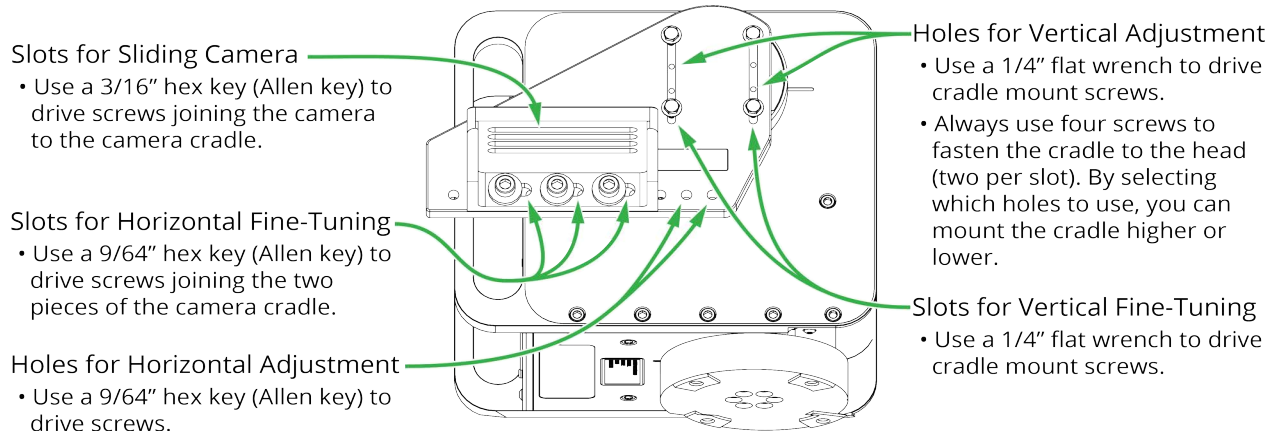

Figure 9 - Payload Balancing Adjustment Features
The head and camera cradle are designed to make balancing easy. **Figure 9** illustrates the following payload balancing adjustment features:
4. Use the horizontal adjustment features (see **Figure 9** on **page 18**) to move the payload away from the direction it tilted, and then test again.
4. Use the vertical adjustment features (see **Figure 9** on **page 18**) to raise or lower the payload as required, and then test again.